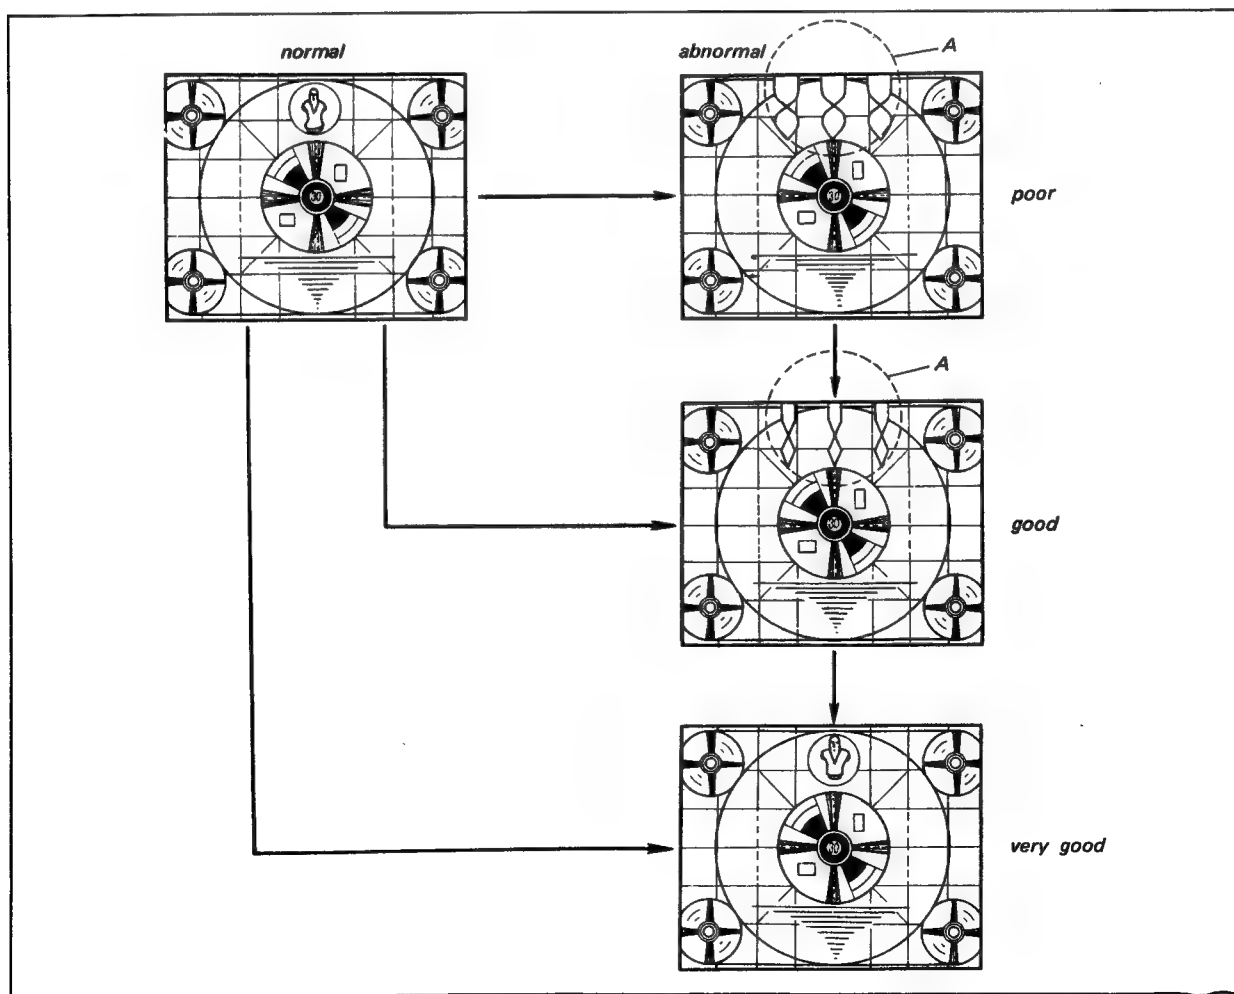

Fig. 4-7c. Picture detail for dihedral adjustment
If the top of the picture is as shown by "A" in Fig. 4-7c (it appears as horizontal jitter), adjust Video Head B as follows.
8. Play back the tape and observe the top of the picture shown at "A" in Fig. 4-7c.